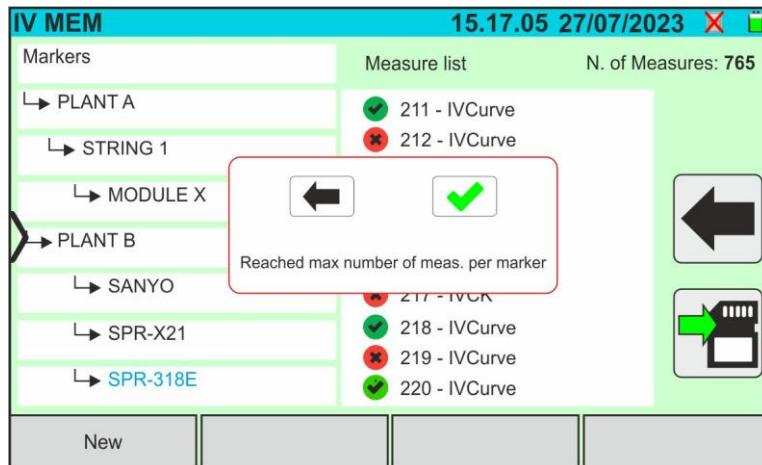

Fig. 87: Displaying results
4. Select a measurement by highlighting it in blue and tap on the "View Results" key to display it. In the case of Fig. 87, the following screen is displayed relative to the I-V curve measurement:
1. Tap on the "Memory" icon on the main menu to display the data (see Fig. 87)